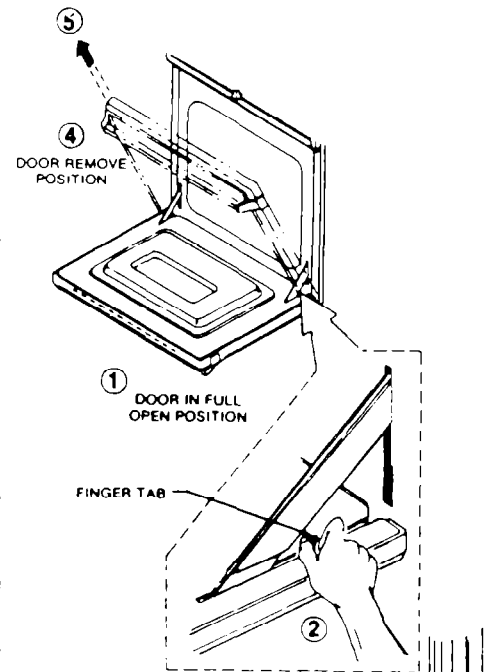

Fig. 1
- A. To Remove Doors (See Fig. 1)
- F. Reinstall the doors (See Fig. 1).